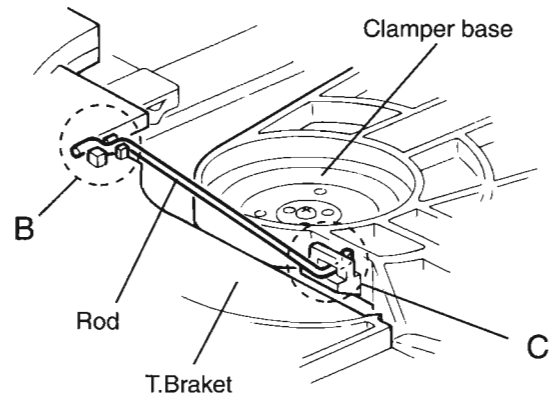

Fig.2
### ■ Removing the CD tray assembly (See Fig.2~4)
4. From the T.bracket section "B" and clamer base section "C", remove both of the edges fixing the rod(See Fig.2 and 3).